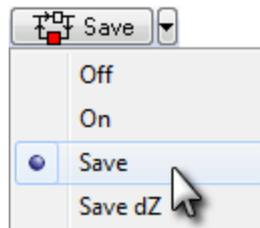

Fig. 10-2. Selecting the **Save** item
1. Fix position of the Z-scanner by clicking the arrow to the right from the feedback enabling button at the upper bar of the Main Program window. In the drop-down list that will appear, select **Save** (Fig. 10-2).